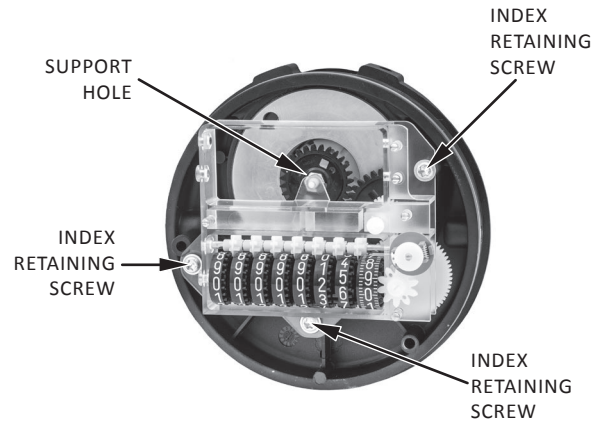

Figure 13. Index retaining screws
5. Remove the three index retaining screws using a Torx T20 driver [Figure 13].
- Carefully ensure the shaft on the magnet holder is in the support hole on the index frame [Figure 13].